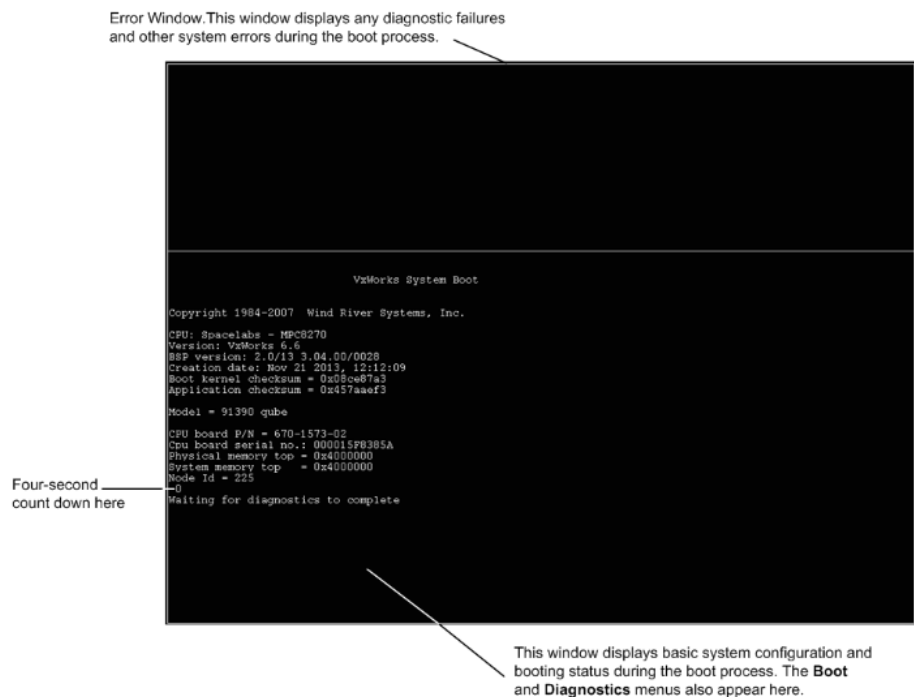

Figure 5-1 System Startup Window
- 1 Power ON the monitor and wait for the 4, 3, 2, 1 countdown (Refer to Figure 5-1 on page 5-2).